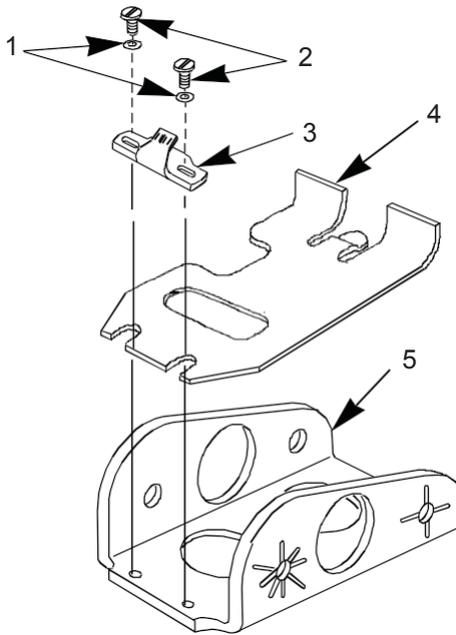

Figure 30. Screws, Lock Washers.
41. Remove two screws (Figure 30, Item 2) and two lock washers (Figure 30, Item 1). Discard the two lock washers (Figure 30, Item 1). Visually inspect screws (Figure 30, Item 2) for distorted threads and replace if damaged.
42. Separate windage scale (Figure 30, Item 3) from rear sight body (Figure 30, Item 5) and visually inspect windage scale (Figure 30, Item 3) for bends, breaks, or missing white paint on scale. If damaged, replace scale.
43. Separate slack plate (Figure 30, Item 4) from rear sight body (Figure 30, item 5). Visually inspect slack plate (Figure 30, Item 4) for bends, breaks or cracks and replace if damaged.
44. Visually inspect rear sight base (Figure 30, Item 5) for bends, cracks or distorted threads and if damaged, replace the entire rear sight assembly.